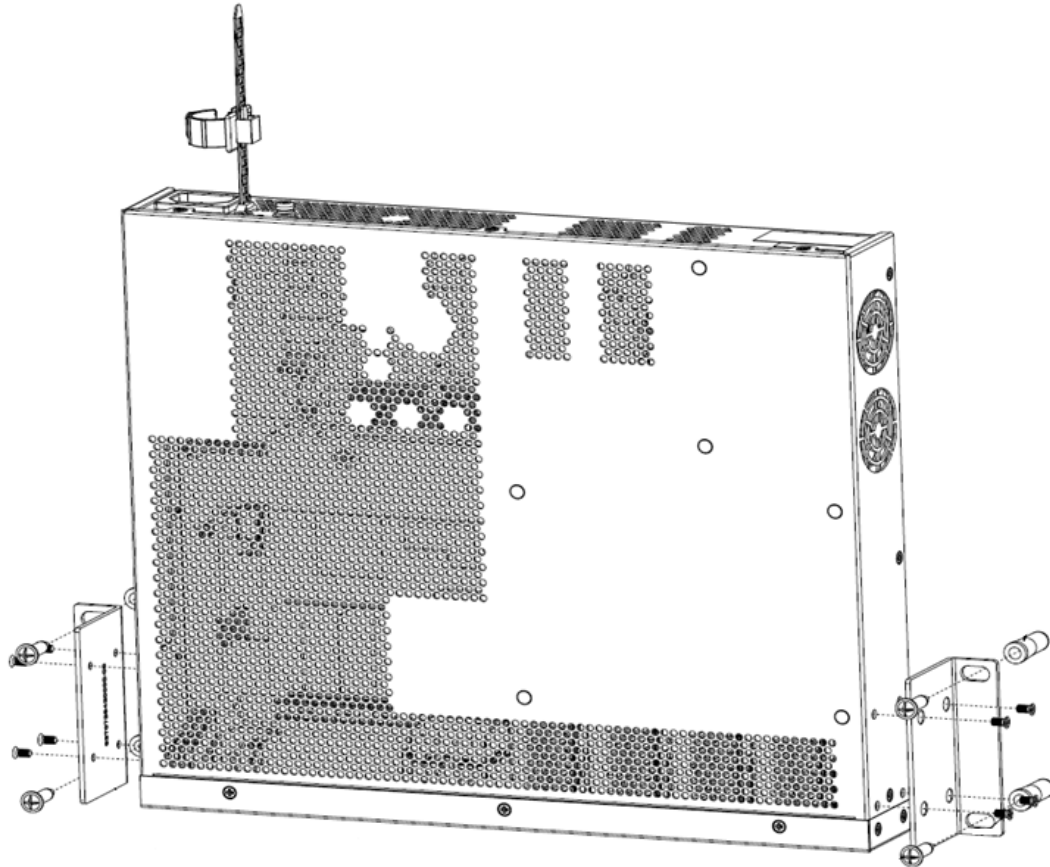

Figure 43: Wall-Mount: Attaching to a wall for models 4220-8X, 4220-4MW-8P-4X, 4220-12P-4X, 4220-12T-4X
3. Using rack mount screws, attach a wall-mounting ear to the left side of the switch, at the front end. Figure 43 shows the attachment of the screws.